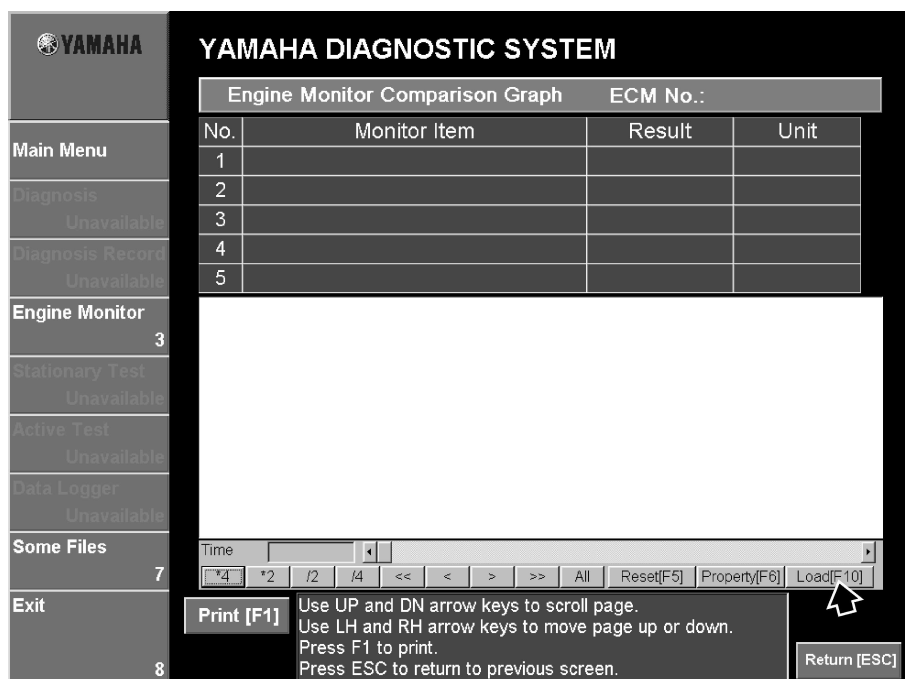

Fig. 36
3. Click the **Load [F10]** button, or hit the F10 key. (Fig. 36)